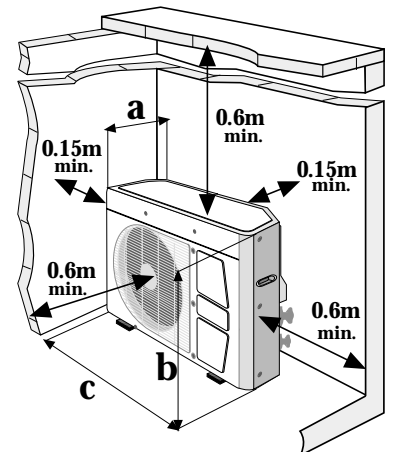

Fig. 2
- Make sure to leave sufficient space around the unit. See Fig. 2 for minimum required distances between the unit and nearby walls.